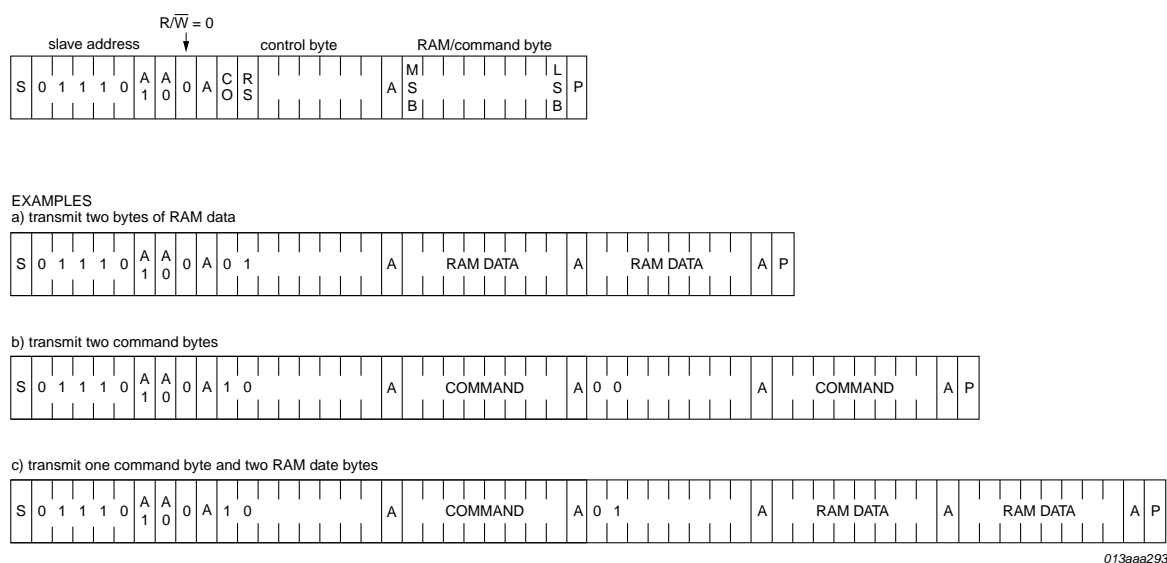

Fig 48. I²C-bus protocol write mode
The I²C-bus protocol is shown in Figure 48. The sequence is initiated with a START condition (S) from the I²C-bus master which is followed by one of the four PCA9620 slave addresses available. All PCA9620's with the corresponding A1 and A0 level acknowledge in parallel to the slave address, but all PCA9620 with the alternative A1 and A0 levels ignore the whole I²C-bus transfer.